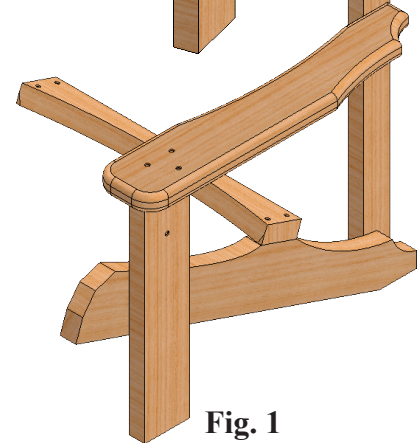

Fig. 1
Step 3. Zoom in around **top of back leg**, Fig. 1. To zoom, place the cursor over the top of back leg area and spin the wheel on mouse back. While spinning the wheel keep cursor on the area.
Step 5. Click **Line**  (L) on the Sketch toolbar.